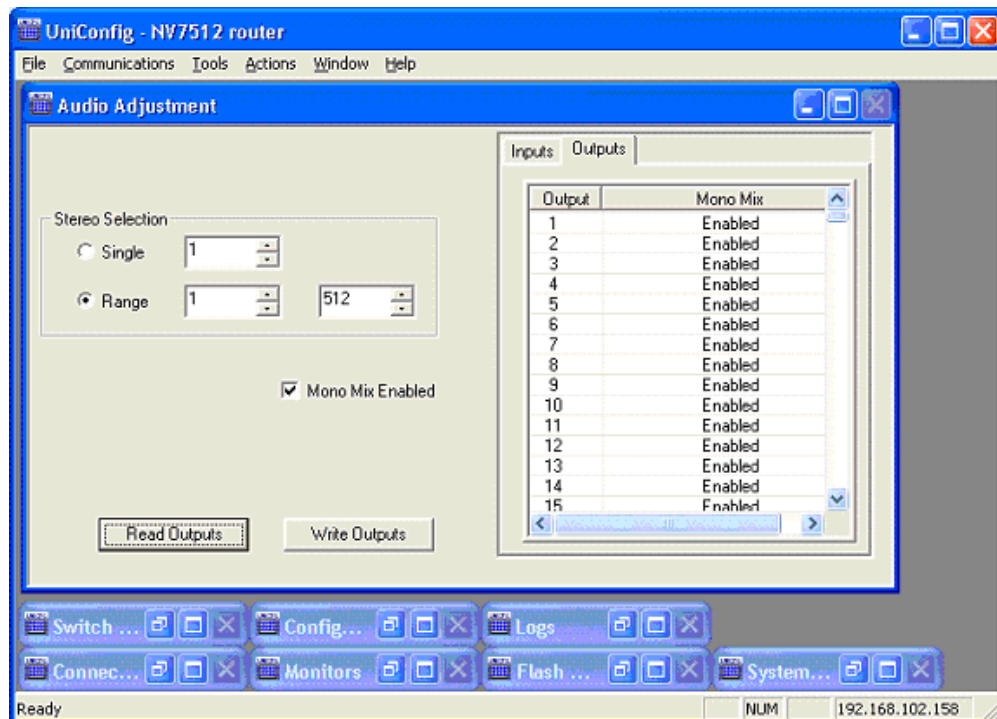

Figure 3-8. UniConfig Audio Adjustment Window
- 2 From the menu bar, select 'Window > Audio Adjustment'. The 'Audio Adjustment' window appears, as shown in Figure 3-8.